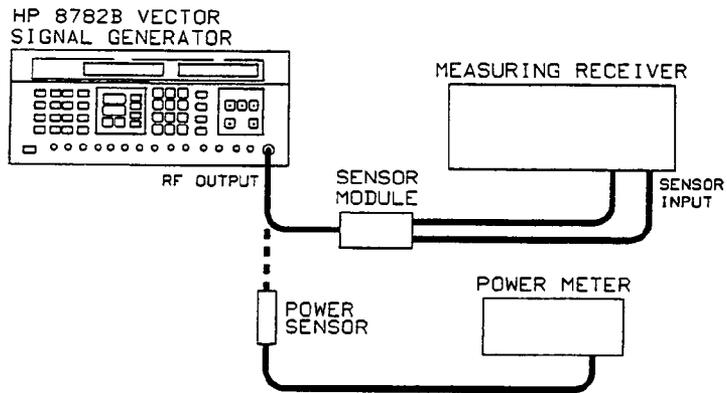

Figure 5-2. RF Level Test Setup
1. Connect the measuring receiver and sensor as shown in Figure 5-2. Set the settings as shown in the table above.